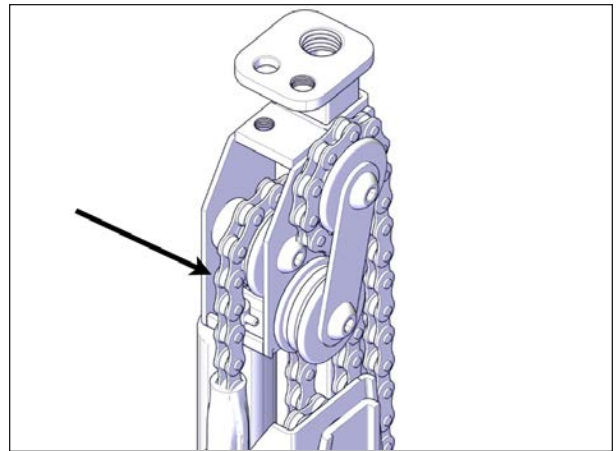

FIGURE 79: JACK CHAINS
8. Inspect the chains for signs of deterioration. If this is the case, call your local Covana dealer, see Figure 79.